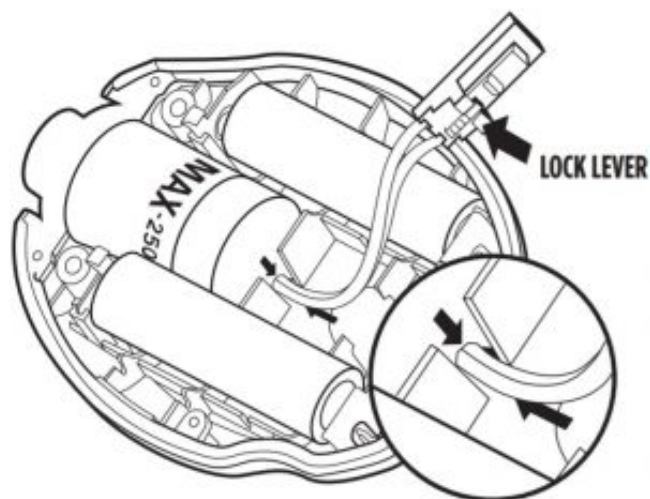

FIGURE 3
**HELPFUL HINT:** Be sure to orient the new sensor by aligning the red arrow on the sensor with the arrow in the back case. A small tab is located on the back case that is designed to engage the sensor and prevent it from rotating within the case. (FIGURE 3)